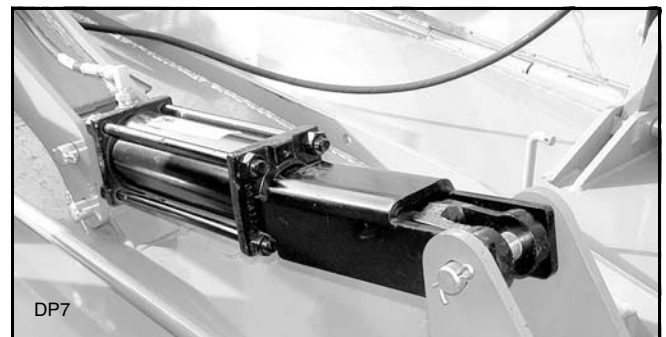

Figure 3. Transport Lock In Transport Position
2. Rotate transport lock into position over cylinder rod (Figure 3).